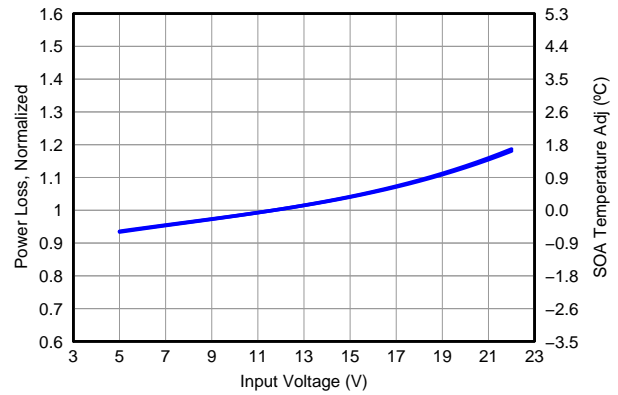

Figure 7. Normalized Power Loss vs Input Voltage
- Normalized Power Loss for input voltage  $\approx 0.94$  (Figure 7)
- SOA adjustment for input voltage  $\approx -0.7^\circ\text{C}$  (Figure 7)